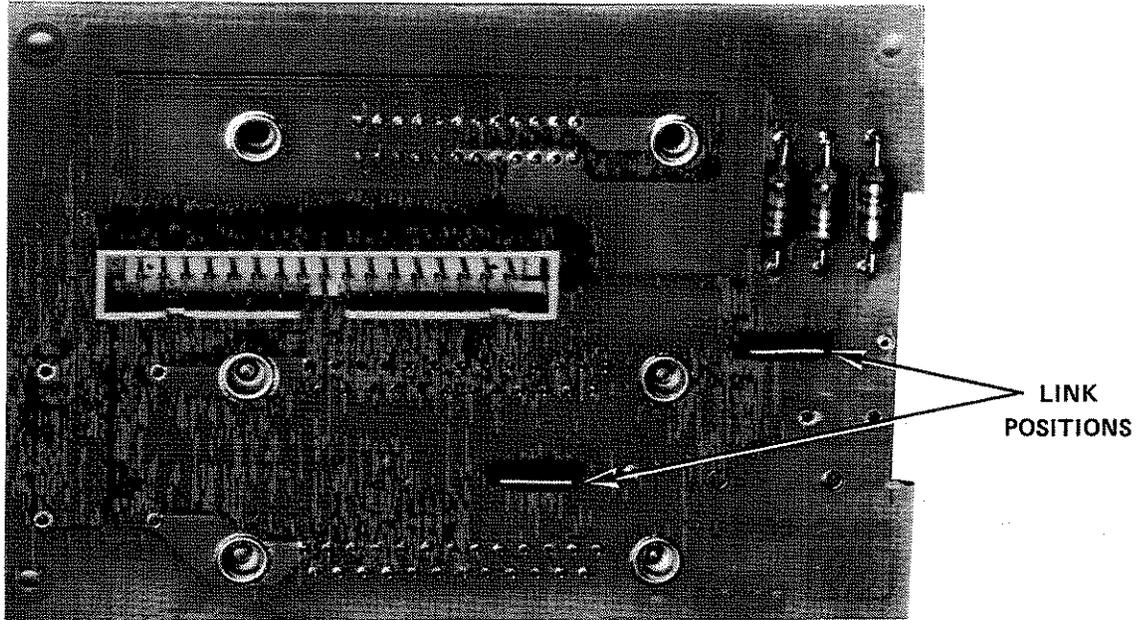

Figure 2-5 Link Positions
3. Move the modem-rate-select strapping links, from the factory preset positions (A and D), to positions (B and D) or C. Note a parking position is available to accommodate the surplus test link when only one position is selected. See Figure 2-5 for the link positions.